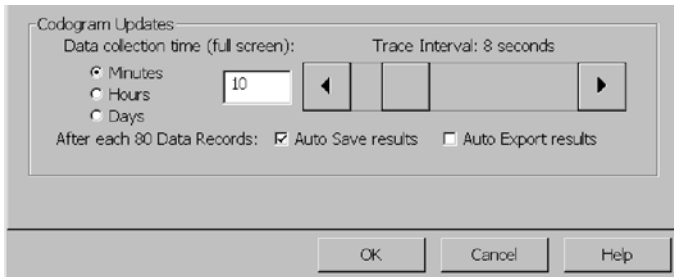

Figure 3-60: Meter tab of the setup window
3. To automatically save or export after you've taken 80 records, tap the check box next to **Auto Save** or **Auto Export**. See Figure 3-60.